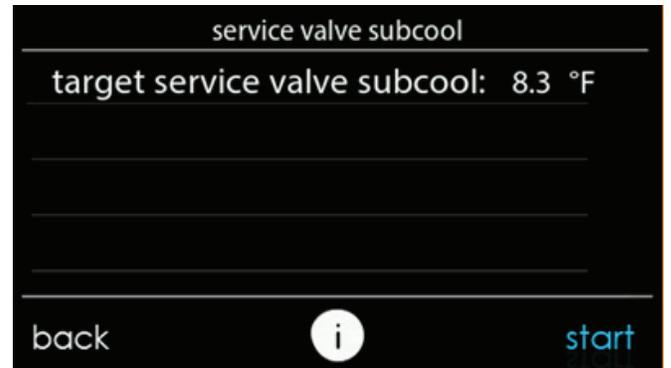

Fig. 14 – Liquid Service Valve Subcooling Target
- The next screen will show the target subcooling that should be attained while charging (see Fig. 14). Before selecting "Start" verify that the service valves are open.